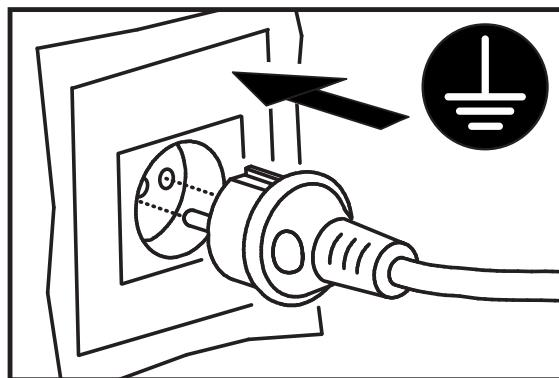

Fig. 6
- **4.1.4.** Connect the power plug to the mains (Fig. 6).